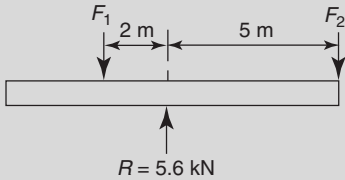

Figure A2.1
1. A moment of 18 N m is required to operate a lifting jack. Determine the effective length of the handle of the jack (in millimetres) if the force applied to it is (a) 90 N (b) 0.36 kN (6)
2. For the centrally supported uniform beam shown in Figure A2.1, determine the values of forces F_1 and F_2 when the beam is in equilibrium. (7)